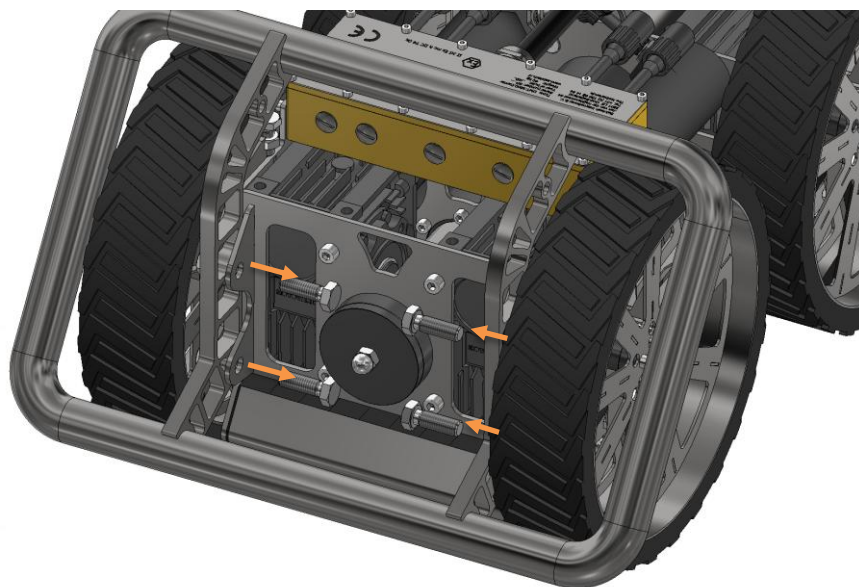

Figure 29 Protection bracket removal
1. Disassemble the front guard bracket by removing the four M12 bolts, as shown in Figure 29